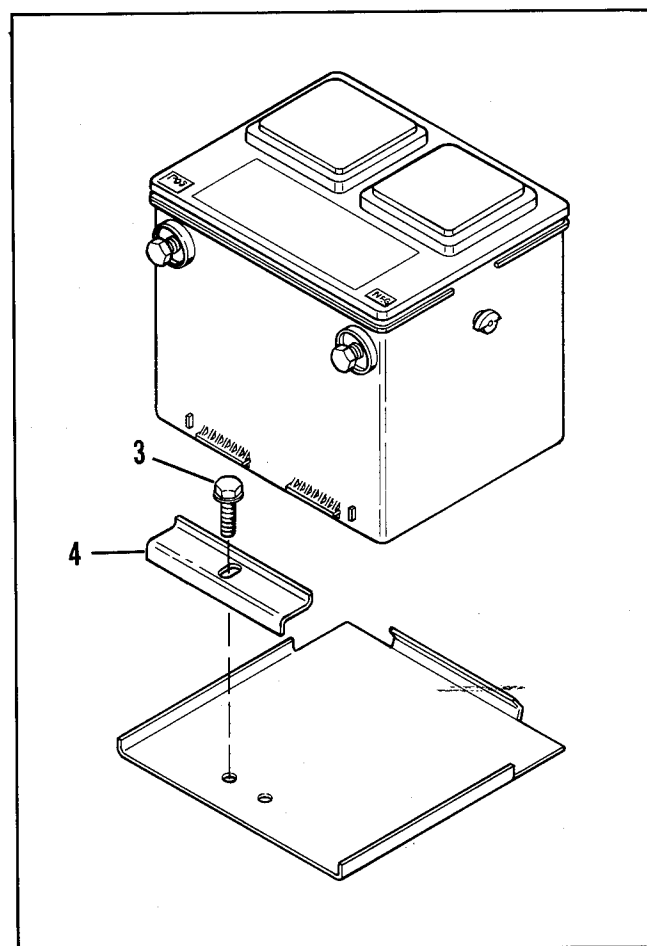

Figure 104 – Battery Removal
Removal (Figure 104)
- Thread a 3/8-16 bolt into each terminal, hand tight, Figure 104.